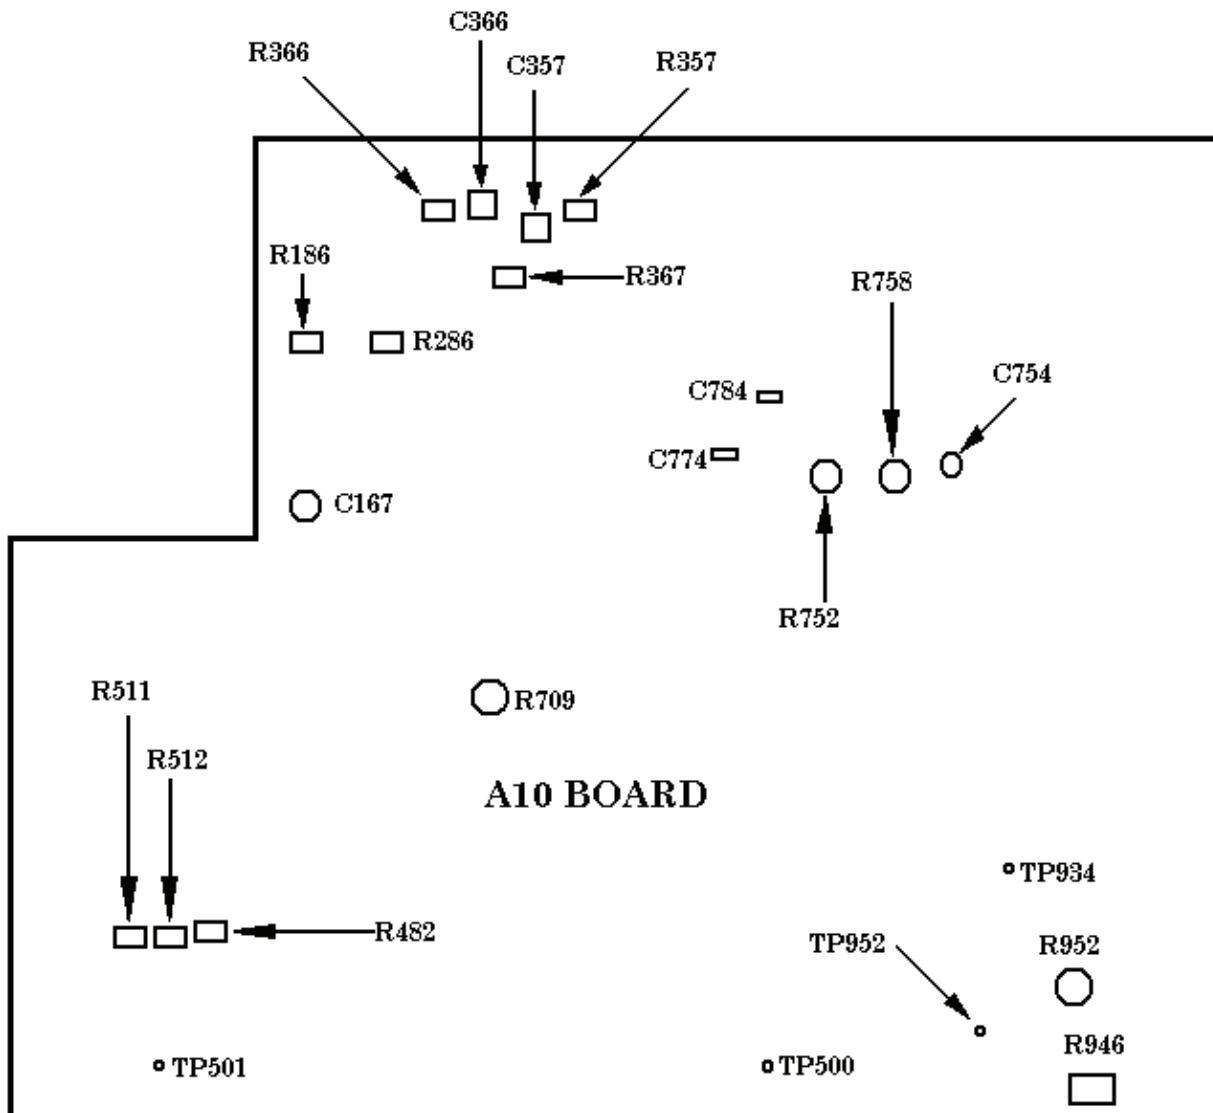
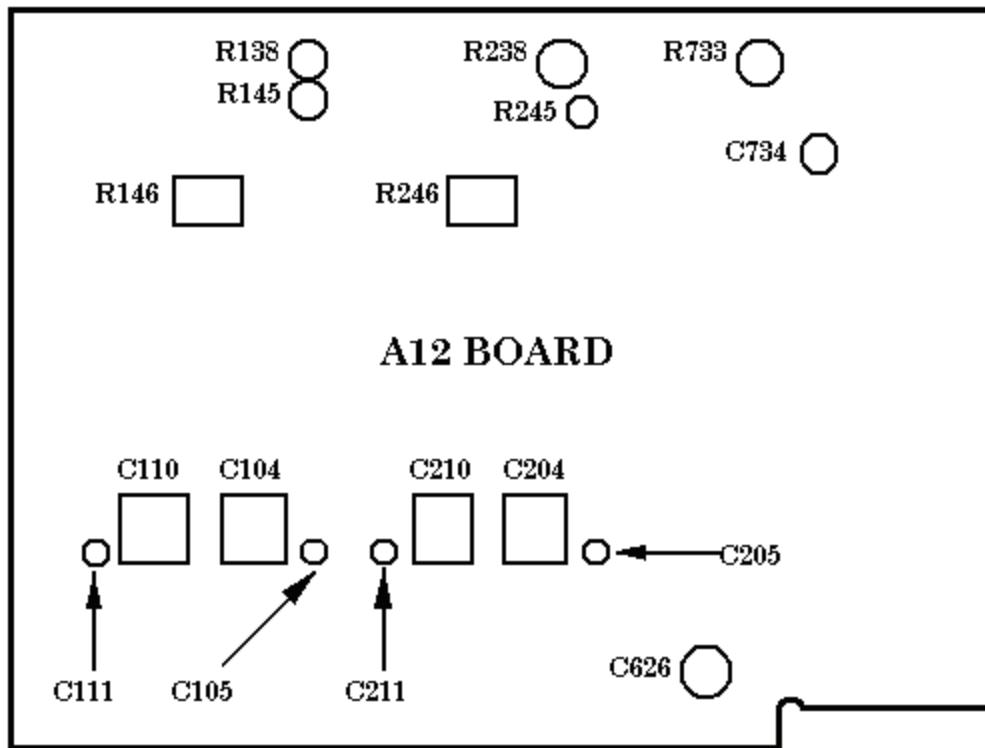

Figure 1. Adjustment locations A10 board.
Figure 2. Adjustment location A12 board.
- (3) Connect oscilloscope calibrator **SOURCE/MEASURE CHAN 1** to TI CH 1 OR X input.
- (4) Set oscilloscope calibrator for a **CH 1 VOLTAGE** output of 100 mV at 1 kHz.
- (5) Adjust R186 (fig. 1) for exactly 5 divisions of TI vertical deflection (R).
- (6) Change oscilloscope calibrator output amplitude to 10 mV.
- (7) Set TI CH 1 VOLTS/DIV switch to **2m**.
- (8) Adjust R145 (fig. 2) for exactly 5 divisions of TI vertical deflection (R).
- (9) Set oscilloscope calibrator to **STANDBY**.
- (10) Set TI CH 1 AC GND DC switch to **GND**.
- (11) Set TI CH 1 VOLTS/DIV switch to **10m**.
- (12) Adjust **CH 1 ♫POSITION** control to position trace on center horizontal graticule line.
- (13) Set TI CH 1 VOLTS/DIV switch to **2m**.
- (14) Adjust R138 (fig.2) to position trace on center horizontal graticule line.
- (15) Repeat (11) through (14) above for minimum trace shift when setting **CH 1 VOLTS/DIV** from **10m** to **2m**.
- (16) Set TI CH 1 VOLTS/DIV switch to **20m**.
- (17) Adjust **CH 1 ♫POSITION** control to position trace on center horizontal graticule line.
- (18) Set TI CH 1 VOLTS/DIV switch to **10m**.
- (19) Adjust R146 (fig. 2) to position trace on center horizontal graticule line.
(20) Repeat (16) through (19) above for minimum trace shift when setting **CH 1 VOLTS/DIV** from **10m** to **20m**.
(21) Position TI switches as listed in (a) through (c) below:
(22) Disconnect oscilloscope calibrator **SOURCE/MEASURE CHAN 1** from TI **CH 1 OR X** input.
(23) Connect oscilloscope calibrator **SOURCE/MEASURE CHAN 1** to TI **CH 1 OR X** input using a 50Ω feedthrough termination.
(24) Set oscilloscope calibrator for a **CH 1, EDGE** mode output of 1 kHz and adjust amplitude for 5 divisions of TI vertical deflection.
(25) Adjust C105 (fig. 2) for best front corner and C104 (fig.2) for best flat top.
(26) Set TI **CH 1 VOLTS/DIV** switch to **2**.
(27) Adjust oscilloscope calibrator output for 5 divisions of TI vertical deflection.
(28) Adjust C111 (fig. 2) for best front corner and C110 (fig.2) for best flat top.
(29) Set oscilloscope calibrator to **STANDBY**.
(30) Move oscilloscope calibrator **SOURCE/MEASURE CHAN 1** connection from TI **CH 1 OR X** input to TI **CH 2 OR Y** input.
(31) Set TI **VERTICAL MODE CH 1 BOTH CH 2** switch to **CH 2**.
(32) Set oscilloscope calibrator for a **CH 1 VOLTAGE** output of 100 mV at 1 kHz.